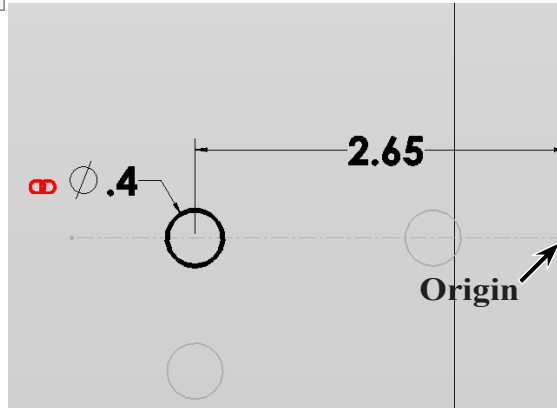

Fig. 32
Step 2. Sketch **circle on the centerline that is in Sketch2**, add dimensions and add **Spoke Dia Link Value** to circle dimension, **Fig. 32**.